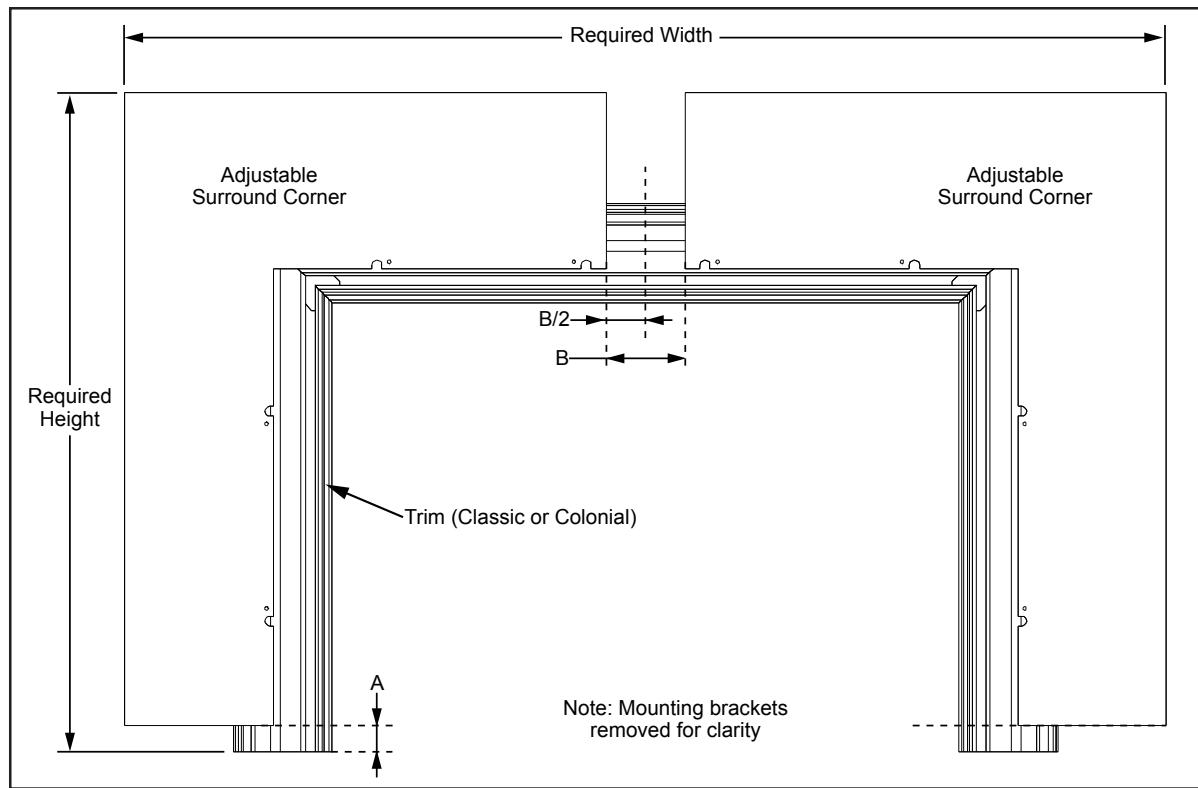

Figure 63: Marking offsets on Trim, Relates to Table 7.
9. Only if installing Adjustable Surround with dimensions within the ranges in Table 1 steps 9-12: On the back side of the trim, mark out the offset distances required for the adjustable surround corners to create the required size. Marking the trim will help you install the surround corners so they will be even and square. Refer to Figure 63 and Table 7.
c) Mark the height difference on the left and right trim sides. Using the example, they would be marked 1" (26mm) from the bottom of each side, see dimension "A" in Figure 63.
d) Mark the center of the top trim, 15 $\frac{5}{8}$ " (397mm) from either side. From the center line mark half the width distance on either side. Using the example of 3" (76mm), there would be marks 1 $\frac{1}{2}$ " (38mm) on either side of the center line, see dimension "B/2" in Figure 63.